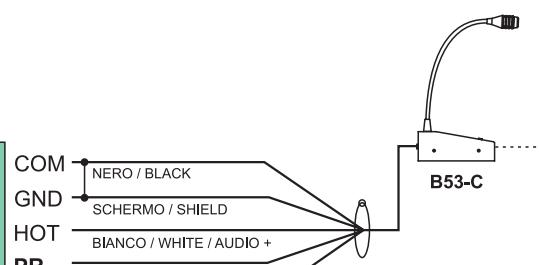

Fig. 4.3.2.
The user can connect balanced line-level sources to the **LINE 1** terminal block (26) - see Fig. 4.3.1 - which will be mixed with the other **MIC** and **AUX** inputs, or connect the PASO pre-amplified microphone bases in parallel, with priority and power supply via the **+12V / PR** socket of the **PREC.** terminal block (see Fig. 4.3.2. for an example of how to connect the PASO **B53-C** call station). The input level can be adjusted from the front panel via the **UNITS/LINE 1** control (1).